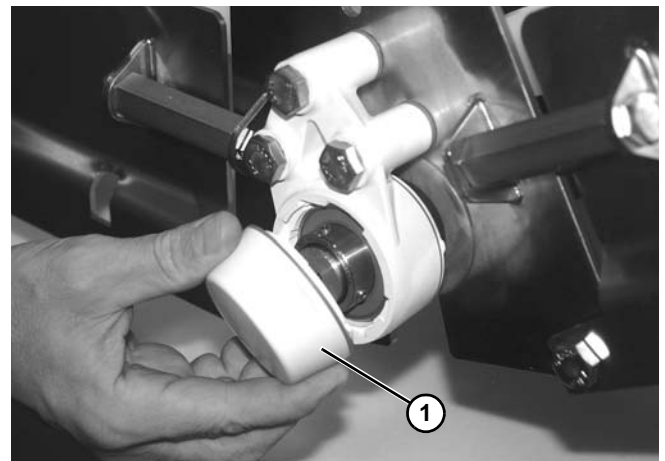

Figure 185
1. Remove bearing cap (**Figure 185, item 1**).